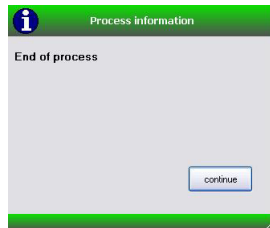

Figure 22. Process information- dialog window
32. All next steps are fully automated, and a software message on the screen will indicate when the protocol is finished (Fig. 22).